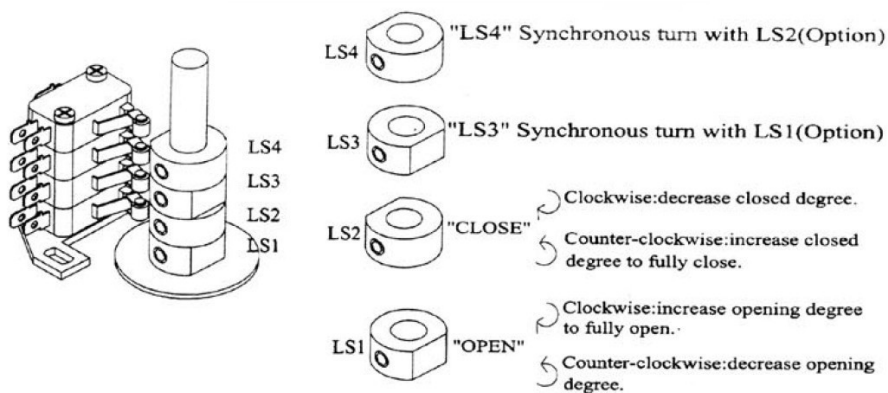

Figure 4: Limit switches LS1, LS2, LS3 and LS4
-they are almost positioned in the same angle of rotation position (see Figure 4)